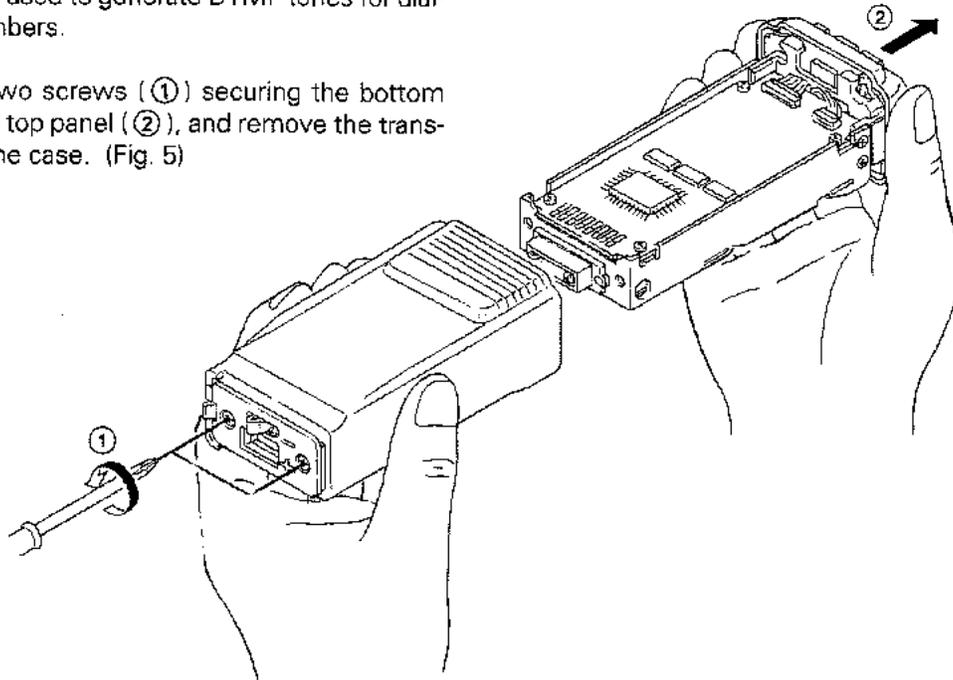

Fig. 5
1. Loosen the two screws (①) securing the bottom plate, pull the top panel (②), and remove the transceiver from the case. (Fig. 5)
- Loosen the two screws holding the bottom plate, pull the top panel, and remove the transceiver from the case. (Fig. 5)